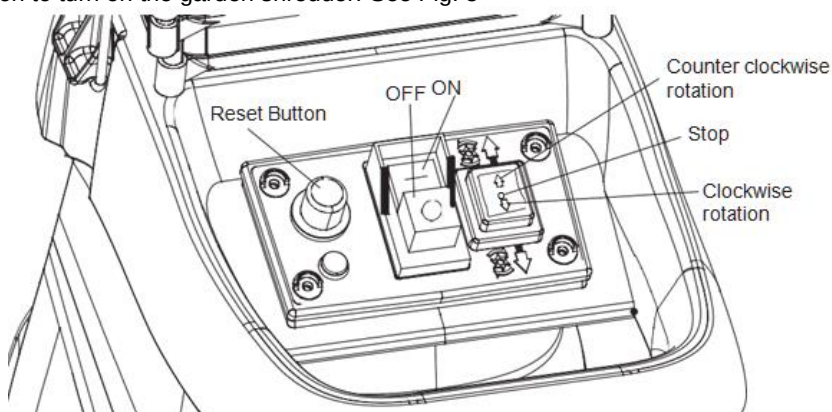

Fig. 5
Press the "I" (ON) button to turn on the garden shredder. See Fig. 5
Attention: If the shredder stops during operation, immediately press the "Stop" button (the middle part of the three-way switch; see Fig. 5), then press the Counterclockwise rotation switch, and then press the "O" (OFF) button to turn off the garden shredder after removing the stuck branches, see Fig. 5.
Overload protection(Reset Button), see Fig. 5